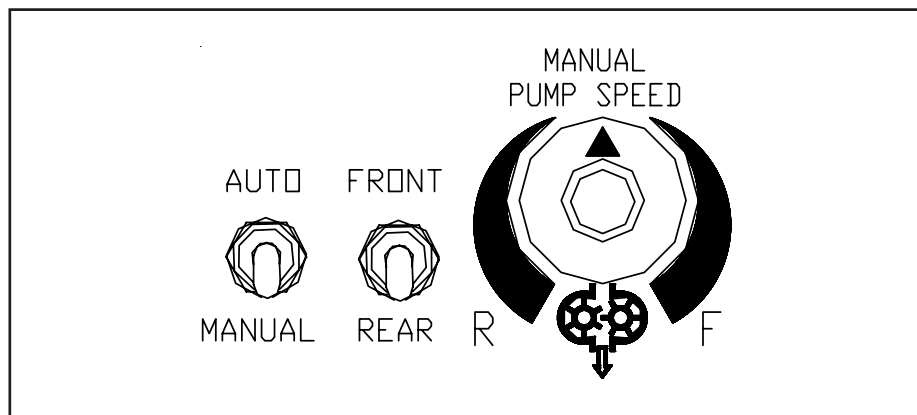

FIGURE 3-3. PUMP CONTROL & MANUAL PUMP SPEED DIAL
4. Set the Front/Rear switch (Figure 3-3) to the FRONT position. Turn the Manual Pump Speed dial clockwise and verify that the asphalt pump rotates in the clockwise direction as viewed from the right side of the machine. Turn the Manual Pump Speed dial to the center position to stop the pump.
5. Rotate the Manual Pump Speed dial counterclockwise and verify that the asphalt pump rotates in the counterclockwise direction as viewed from the right side of the unit. Return the Manual Pump Speed dial to the center position to stop the pump. (Figure 3-3).
2. Turn the Mode Selection switch (Figure 3-3) to TANK CRCLT. Have a person at the back of the Maximizer verify that the circuit valves move into position.